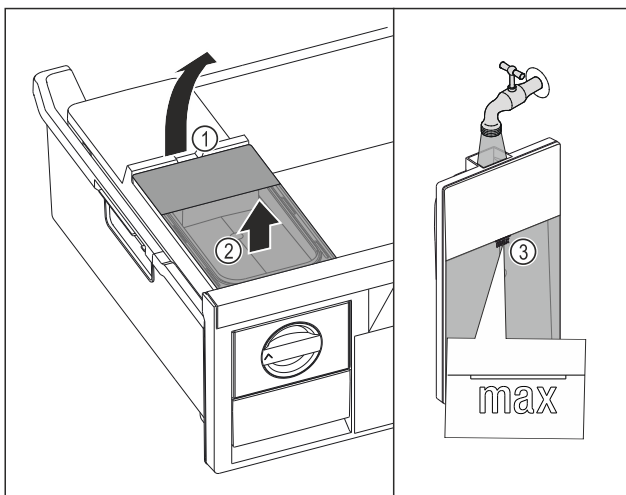

Fig. 91
- ▶ Lift the water tank at the recess Fig. 91 (1).
- ▶ Remove the water tank by lifting it upwards. Fig. 91 (2)
- ▶ Fill the water tank with drinking water up to the mark Fig. 91 (3).